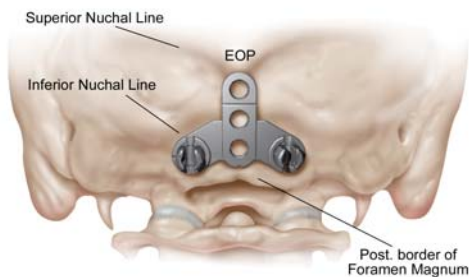
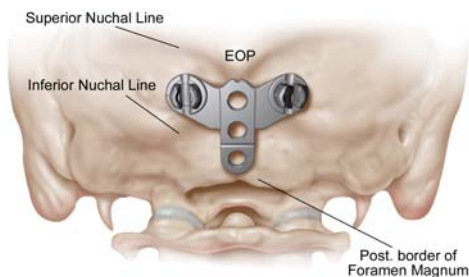

Figure 11a
Figure 11b
- The OC Plate can be oriented with the single limb of the implant cephalad in the midline and below the EOP (Figure 11a) or with the V portion of the implant cephalad in the midline and below the EOP (Figure 11b). The two limbs of the OC Plate should be placed above the foramen magnum allowing for a generous bone graft caudal to the implant.